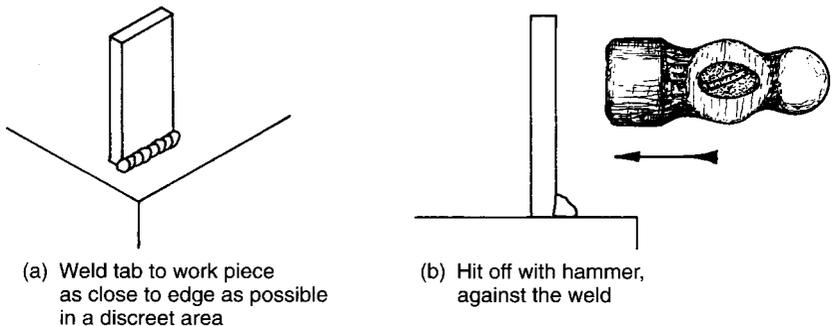

Fig. 4.1
- **Tab test 2.** Your tab test metal is not part of your tool – it will be a piece of scrap metal (bar or plate) which has been prepared from a known source. Decide on which filler wire or wires you think may be suitable. Cut a piece of metal to use as a tab, ideally 50mm × 25mm × 5mm for each filler wire you intend to try. Make sure that your tab metal is made out of a material that is compatible with your test filler wire. Weld the tab onto a discreet, area on your tool as shown in Fig. 4.1. and try to hit it off with a hammer in the direction shown. Then you will have to decide whether you think it held firm or not.